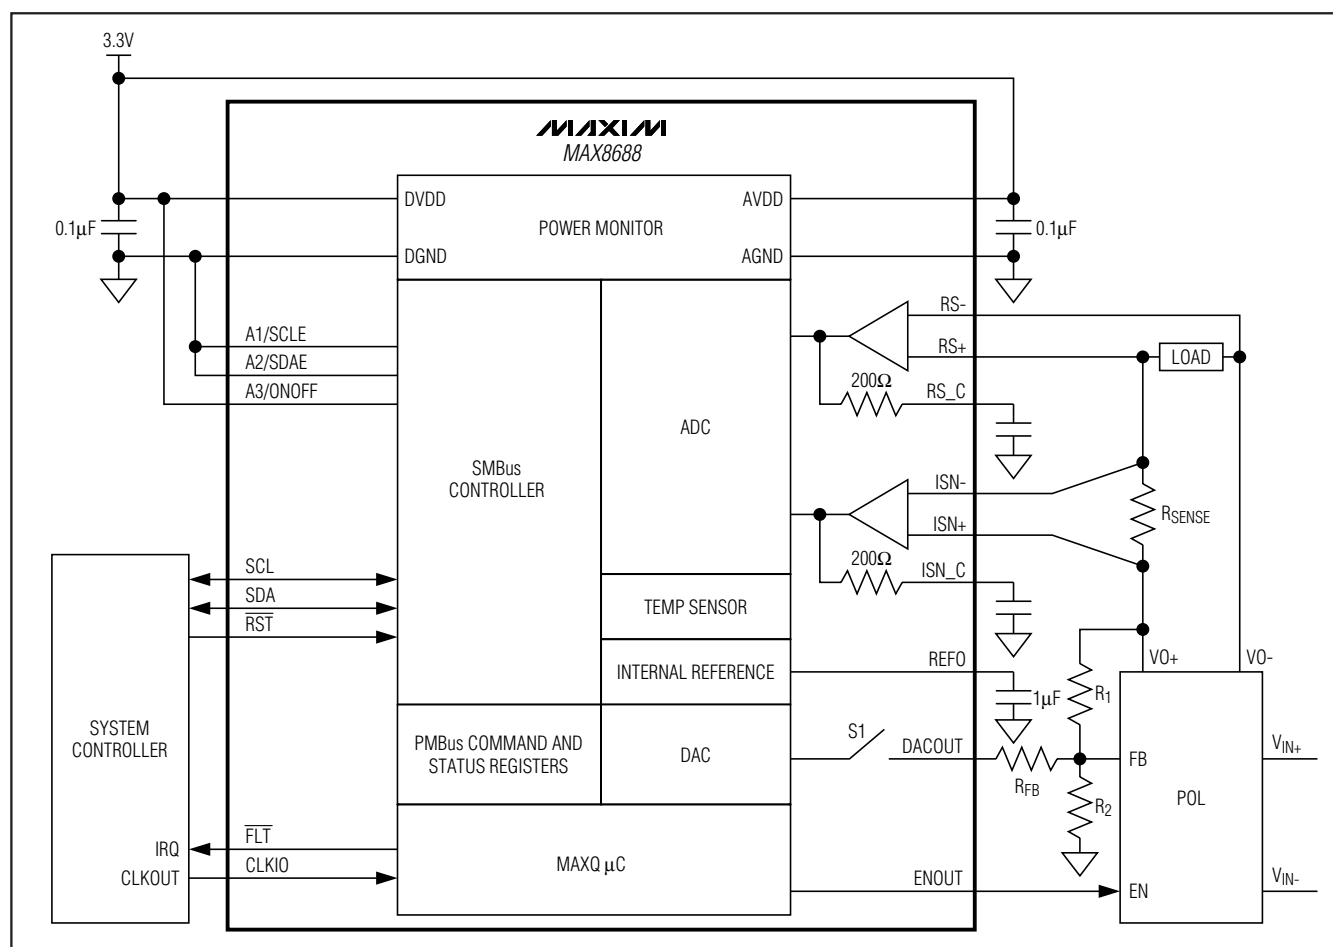

Figure 5. Typical System Application—Feedback Mode
In applications where a REFIN input is not available, the MAX8688 interfaces to the inverting input of the POL error amplifier, the feedback node (FB), through a resistor R_{FB} as shown in Figure 5. In steady-state operation, the MAX8688 controls the POL voltage as measured between RS+ and RS- to 0.2% accuracy over line, load, and temperature variations, by adjusting DACOUT 1 LSB (0.5mV) at a time, up and down as required. This mode of operation is termed FB mode. Since the MAX8688 does not have control over the POL error-amplifier reference voltage, this mode relies on the POL soft-start setting to implement the required soft-start time. On receipt of either an OPERATION ON command or a turn-on signal from A3/ONOFF, the MAX8688 commences startup operations that have been programmed for the POL being controlled. After the programmed t_{ON_DELAY} time, the MAX8688 open-drain ENOUT output goes active, causing the POL to ramp up its output voltage to its target value. The soft-start time taken by the POL to ramp from zero to its commanded output voltage should be entered into the MAX8688 with the t_{ON_RISE} parameter.